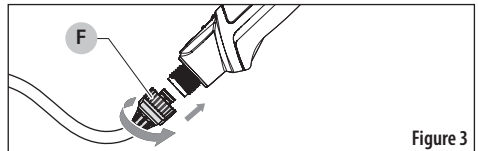

Figure 3
Install the hose assembly (F) onto the power wand sprayer. Turn clockwise to tighten. See Figure 3.